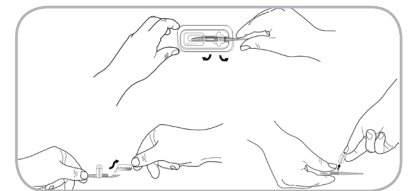

Fig. 3
- Remove the capsule's plastic cover, soaker bulb and magnetic clip. (Fig. 3)